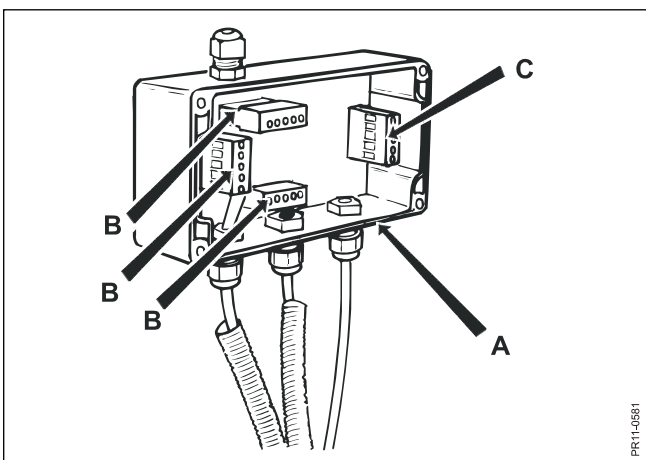

Fig. 9.11
- Fig. 9.11** When welding **never ever** let the current run through a weighing cell.